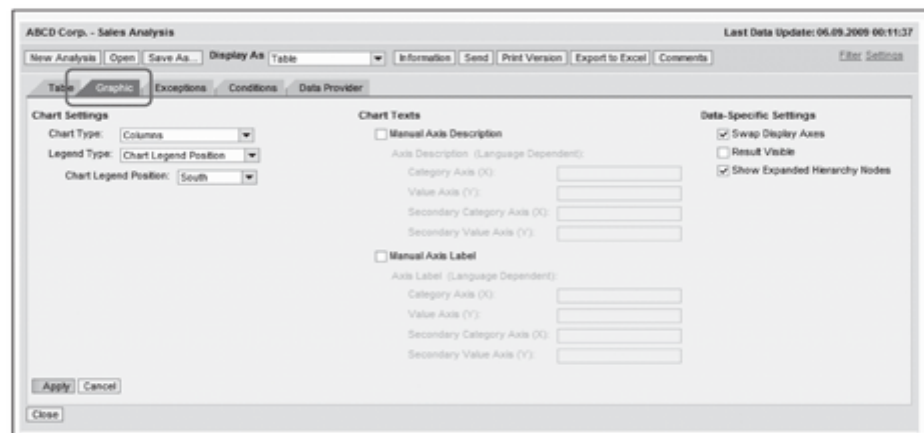

Figure 10.57 Analysis Settings: Graphs
- ▶ **Graphic:** The settings related to the graphical display of the data in the analysis are maintained on this tab page (Figure 10.57). The details corresponding to the chart type, axis settings, legends, and so on are controlled here.